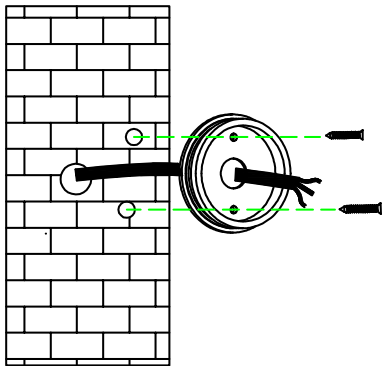

Fig. 1
- Feed the mains cable through the rubber grommet to retain IP rating, and secure the baseplate to the surface. Rubber washers or sealant should be applied around the screw heads to prevent water ingress (see Fig. 1)